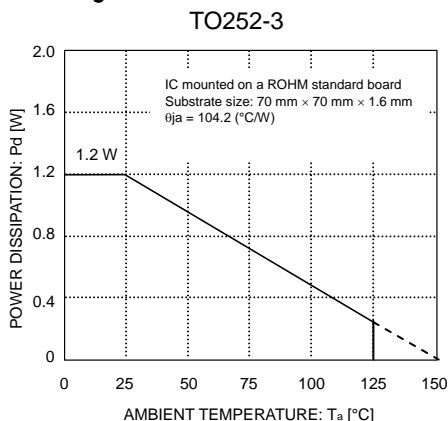

Fig. 23
Refer to the heat mitigation characteristics illustrated in Figs. 23, 24 and 25 when using the IC in an environment where $T_a \geq 25^{\circ}\text{C}$. The characteristics of the IC are greatly influenced by the operating temperature. If the temperature is in excess of the maximum junction temperature T_{jmax} , the elements of the IC may be deteriorated or damaged. It is necessary to give sufficient consideration to the heat of the IC in view of two points, i.e., the protection of the IC from instantaneous damage and the maintenance of the reliability of the IC in long-time operation.
In order to protect the IC from thermal destruction, it is necessary to operate the IC not in excess of the maximum junction temperature T_{jmax} . Fig. 23 illustrates the power dissipation/heat mitigation characteristics for the TO252 package. Operate the IC within the power dissipation P_d . The following method is used to calculate the power consumption P_c (W).